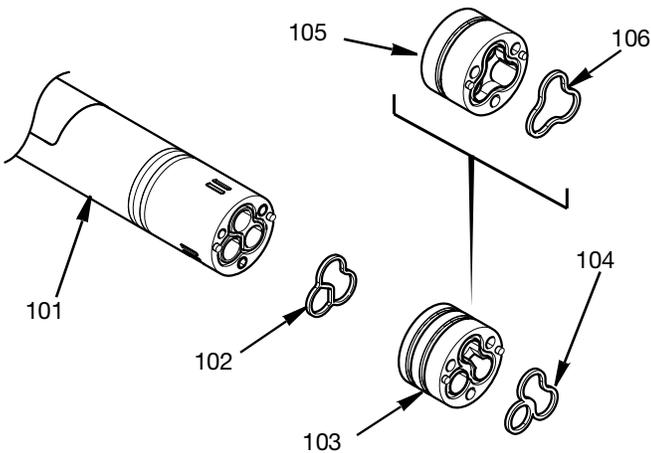

FIG. 31
11. Insert a new adapter gasket (102) into the slot on the face of the central body (101). Push the appropriate adapter (103/105) onto the central body while lining up the adapter pin holes with the locating pins. Place a new gasket (104) for two material adapter (103) or gasket (106) for one material adapter (105). See FIG. 31.